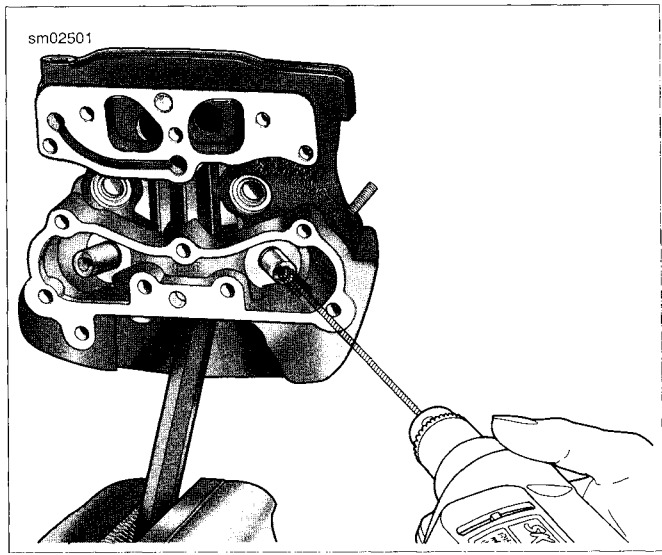

Figure 3-105. Honing Valve Guide Bore
8. See Figure 3-105. Obtain the VALVE GUIDE HONE (Part No. B-45525) and REAMER LUBRICANT (Part No. HD-39964).